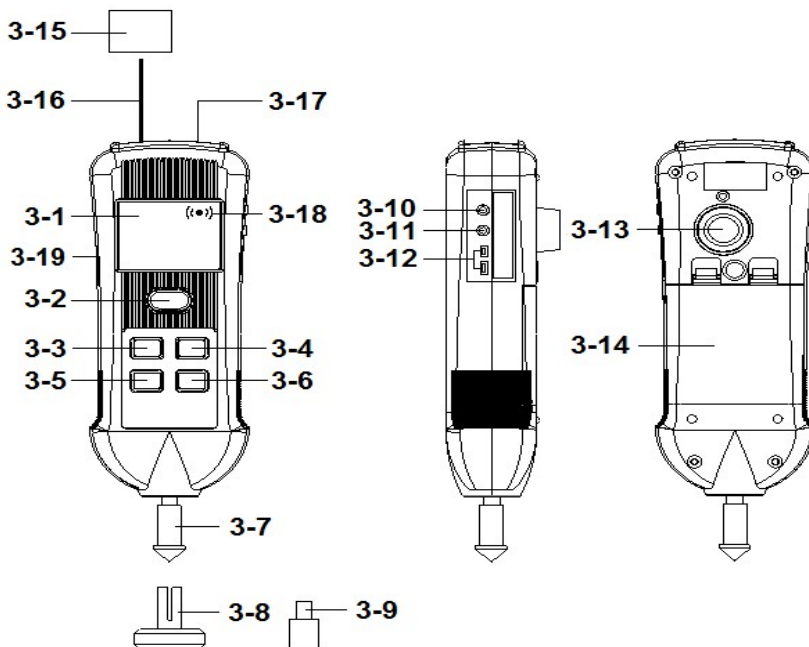

Fig. 1
- 1) Power On the meter by short pressing the " Power button " ( 3-2, Fig. 1 ) >1.5 seconds , the LCD will light.
- 2) Press the " Function button " ( 3-6, Fig. 1 ) (short push) in sequence until to the " Photo RPM " function be selected, in the same time the " Photo light beam " ( 3-16, Fig. 1 ) will be generated.
- 3) Apply a " Reflecting mark " ( 3-15, Fig. 1 ) to the object being measured. and align the " Photo light beam " ( 3-16, Fig. 1 ) with the applied target. Verify that the " Monitor Indicator " ( 3-18, Fig. 1 ) lights when the target pass through the light beam.
- 1) Power On the meter by short pressing the " Power button " ( 3-2, Fig. 1 ) >1.5 seconds, the LCD will light.
- 2) Press the " Function button " ( 3-6, Fig. 1 ) (short push) in sequence until to the " Contact RPM " function be selected.
- 3) Lightly pressing the " RPM Adapter " ( 3-7, Fig. 1 ) against the center hole on the hole of the measured rotating axis.
Making the contact RPM measurement due to different kind measured rotating axis, it may changed the rubber for RPM adapter from " CONE " type to " FUNNEL" type ( 3-9, Fig. 1 )
- 2) Short Press the " Function button " ( 3-6, Fig. 1 ) once again and again until lcd display show the " touch " text, then short press the " UNIT Button " to select the Surface Speed Measurement unit m/min , " ft/min " or " in./min.".
- 3) Change the " RPM Adapter " instead of the " Surface Speed Test Wheel " ( 3-8, Fig. 1 )
- 2) Press the " Function button " ( 3-6, Fig. 1 ) (short push) in sequence until to the " SCOPE RPM " function be selected, in the same time the " Stroboscope flash light (red) indicator " (3-17, Fig. 1 ) will be Light.
- 1) Use the " ▲+ button " ( 3-3, Fig. 1 ) , " ▼- button " ( 3-5, Fig. 1 ) to adjust the exact display value.
- 2) Press the " Function button " ( 3-6, Fig. 1 ) (short push) in sequence until to the " TYPE k " function be selected.
- 3) type k probe inserted into the thermocouple probe terminal " thermocouple probe terminal " ( 3-12, Fig. 1 ).
- 2) Press the " Function button " ( 3-6, Fig. 1 ) (short push) , in sequence until to the " P t " function be selected.
- 3) TP-1000 probes are connected to the Pt 1000  $\Omega$  probe terminal " ( 3-11, Fig. 1 ) .
- 1) Power On the meter by short pressing the "power button " ( 3-2, Fig. 1 ) >1.5 seconds, the LCD will light.
- 2) Use the " Function button " ( 3-6, Fig. 1 )(short push), to select function , until to the " I r " function be selected.
- 3) Press and hold the IR thermometer test button " Power button " ( 3-2, Fig. 1
- 6) when test value stable then releass the IR thermometer test button " Power button " ( 3-2, Fig. 1 ) .
- 1) The data record function records the maximum and minimum readings. Press the " REC Button " ( 3-4, Fig.1 ) once to start the Data Record function and there will be a " REC "Symbol indicator " will be light.
- a) Press the " REC Button " ( 3-4, Fig. 1 ) once, the " REC and MAX Symbol indicator will be light , and the maximum value will appear on the display.
- b) Press the " REC Button " ( 3-4, Fig. 1 ) again, the " REC and MIN " Symbol indicator will be light , and the minimum value will appear on the display.
press the " FUNCTION (SET) Button " ( 3-6, Fig. 1 ) continuously at least Five seconds will enter the " Advanced Setting " mode. then press the " FUNCTION (SET) Button " ( 3-6, Fig. 1 ) once a while in sequence to select the two main function, the display will show :
- 1) Use the " ▲ button " ( 3-3, Fig. 1 ) or " ▼ button " ( 3-5, Fig. 1 ) to select the upper text to " yES " or " no ".
- 2) After select the text to " yES " or " no ", press the " REC(Enter) Button " ( 3-4, Fig.1 ) will save the setting function with default.
- 1) Use the " ▲ button " ( 3-3, Fig. 1 ) or " ▼ button " ( 3-5, Fig. 1 ) to select the upper Display text to " C " or " F ".
- 2) After Display unit is selected to " C " or " F ", press the " REC(Enter) Button " ( 3-4, Fig.1 ) will save the setting function with default.